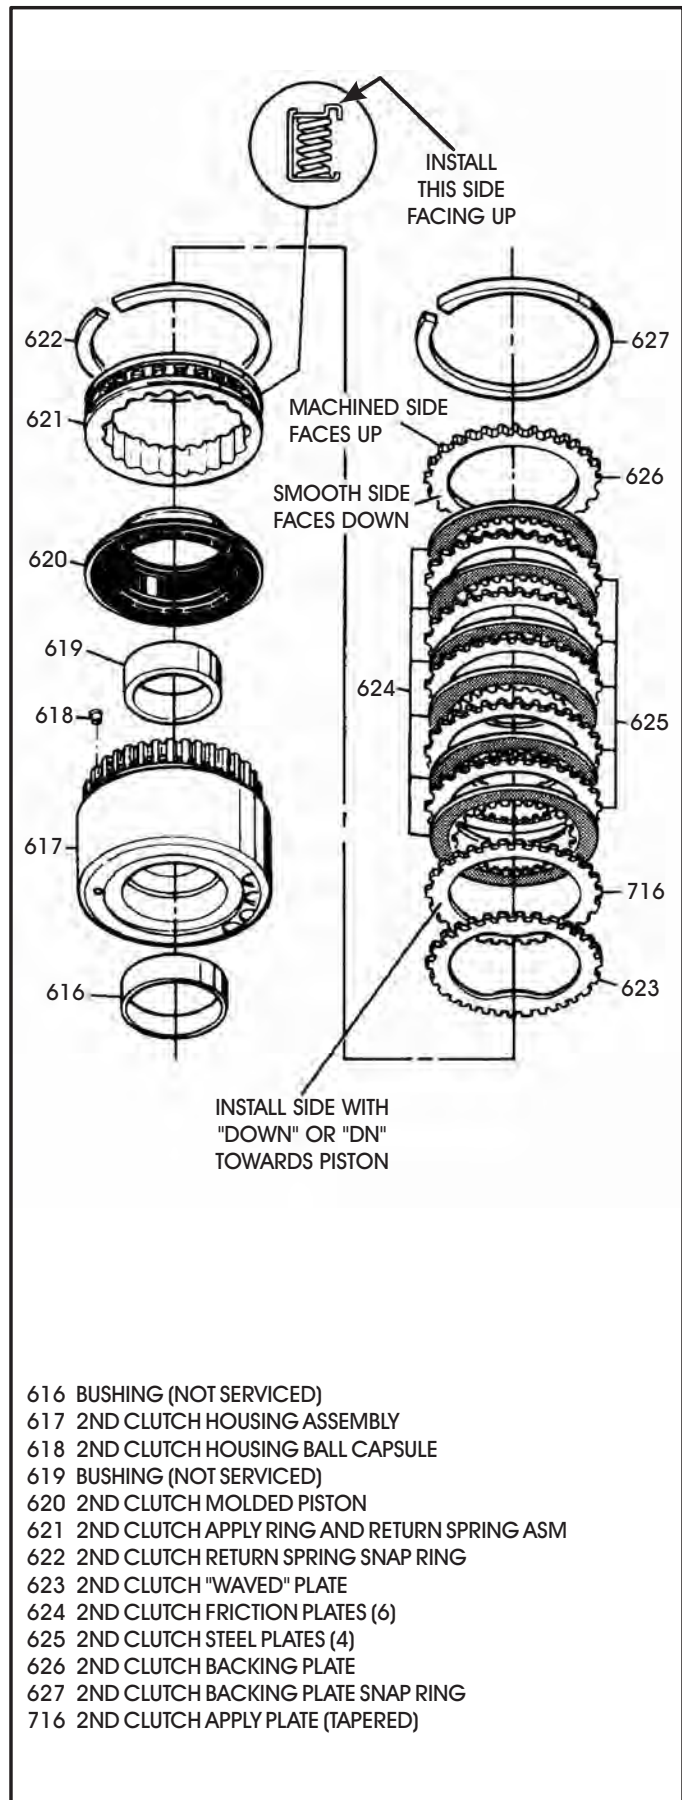

Figure 129
1. Disassemble the 2nd clutch housing assembly using Figure 129 as a guide.
6. Install the 2nd clutch piston into the 2nd clutch housing with a twisting motion until it is fully seated (See Figure 129).
7. Install the 2nd clutch piston apply ring and return spring assembly, in the direction shown in Figure 129.
9. Install the 2nd clutch "Waved" plate on top of return spring, as shown in Figure 129.
10. Install the 2nd clutch apply plate into housing as shown in Figure 129. The side stamped with "DOWN" or "DN" should be installed towards the piston.
11. Install the 2nd clutch plates beginning with a friction plate and alternating with steel plates until you have installed 6 friction and 4 steel plates, as shown in Figure 129 and 130.
13. Install the 2nd clutch backing plate snap ring, as shown in Figure 129 and 130.